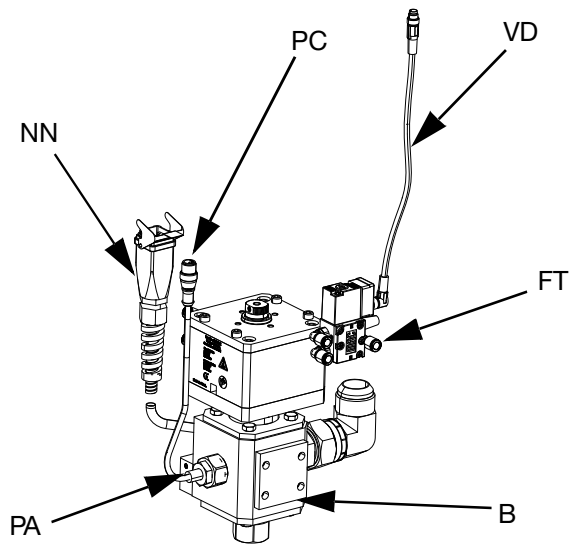

FIG. 24
- 9. Connect the Air Line (AR) (not supplied) to the air fitting (FT) on the dispense valve solenoid. See the Axial Dispense Valve Instructions-Parts manual. See FIG. 24.
- a. Connect the solenoid valve cable (VC) to the M8 4 pin end of the splitter cable attached to Port 4 on the Electric Driver (AB). See **Electric Driver Communication Connections** for Single Rams on page 16. See FIG. 24.
- b. Connect the 90 degree end of the included M8 4 pin cable (VD) to the dispense valve, and the straight end of the solenoid valve cable to (VC). See FIG. 24.
- a. Connect the dispense valve solenoid cable to the tandem dispense valve solenoid connector (YY) on tandem block (R).
- b. Connect the 90 degree end of the included M8 4 pin cable (15N040) to the dispense valve, and the straight end of the solenoid valve cable to (VC). See FIG. 24.
- c. Connect one male end of the M8 4 pin splitter (TT) on the tandem block (R) to the M8 4 pin end of the splitter cable attached to Port 4 on the Electric Driver (AB) for ram 1 and ram 2. See **Electric Driver Communication Connections** for **Tandem Rams** on page 17.